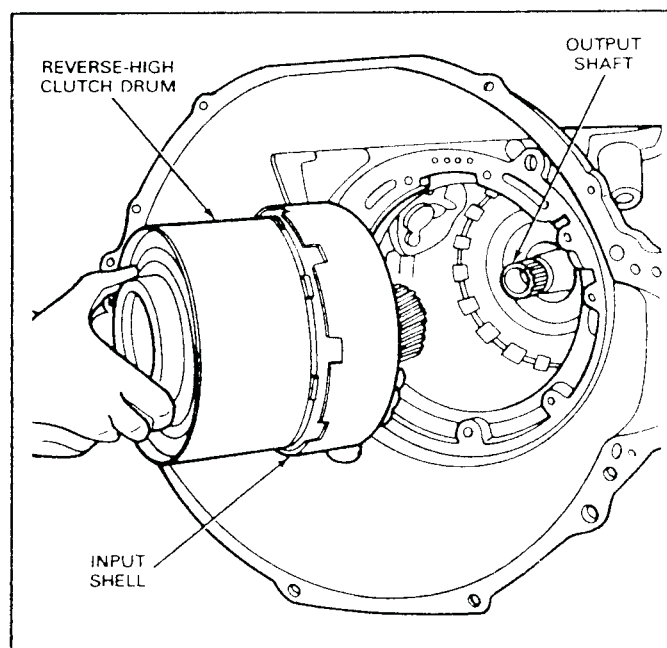

FIG. 21 Removing or Installing Forward Part of Gear Train
11. Remove the forward part of the gear train as an assembly as shown in Fig. 21.